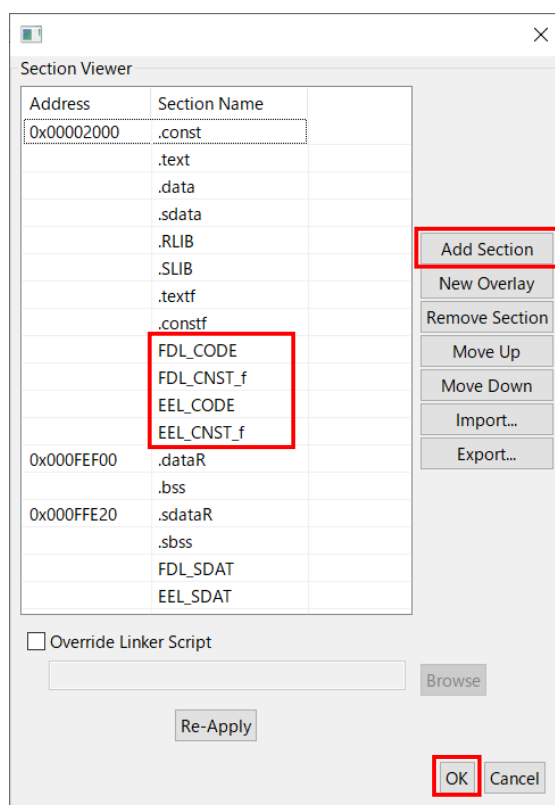
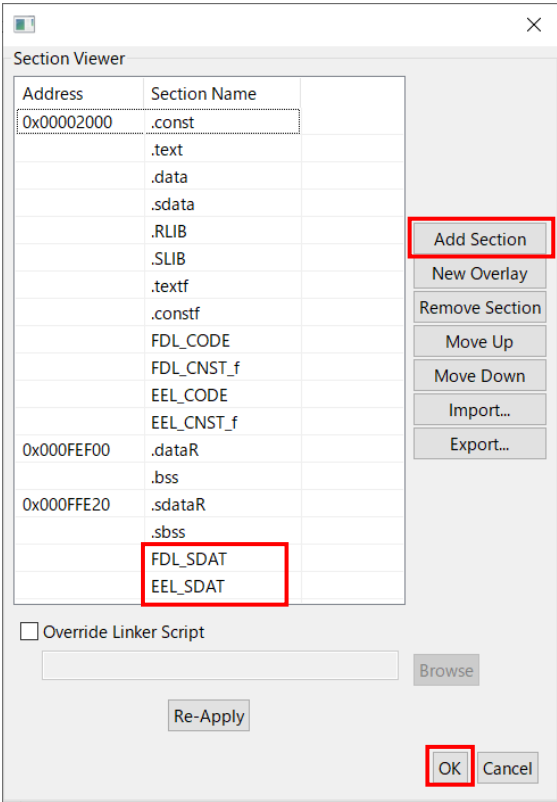

Figure 8-5. Example of Section Settings for EEPROM Emulation Library when Using e² studio (ROM Area)
Figure 8-6. Example of Section Settings for EEPROM Emulation Library when Using e² studio (RAM Area)
- Setting of the section items on e² studio inputs in the "Properties" window. Select "C/C++ Build" [Setting] - "Linker" [Section]. And set section items on the displayed screen. Remove a check mark to [Layout sections automatically(-auto_section_layout)]. Press the "..." button of the right-hand side which sections are displaying, and a "Section Viewer" screen is displayed and add the sections necessary for the EEPROM emulation library to the ROM area (as shown in Figure 8-5). (In this example, the FDL_CODE, FDL_CNST_f, EEL_CODE and EEL_CNST_f sections that are necessary for operation of the sample are added.) Also add a section of the EEPROM emulation library to the RAM area (as shown in Figure 8-6). (In this example, the FDL_SDAT and EEL_SDAT sections that are necessary for operation of the sample are added.)